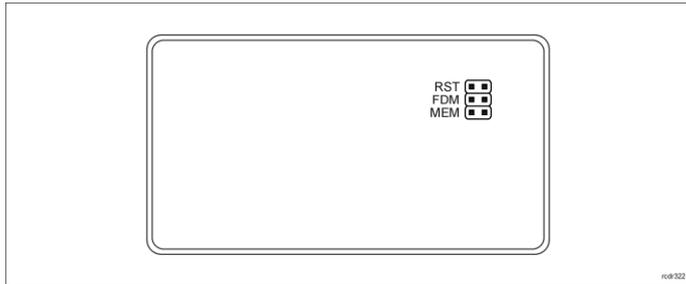

Fig. 4 Service contacts
**Note:** Remote configuration of device from VISO v2 software is possible only if jumper is placed on MEM contacts (fig. 4). If the jumper is removed then such configuration is blocked. In case of factory new device, jumper is placed on MEM contacts.
In RACS 5 v2 system the reader can be installed at site without previous configuration. According to AN006 application note, its address and other settings can be configured from VISO v2 management software and during such configuration the access to its service contacts (fig. 4) is not required.
2. Remove jumper from MEM contacts (fig. 4) if it is placed there.
2. Place jumper on FDM contacts (fig. 4).